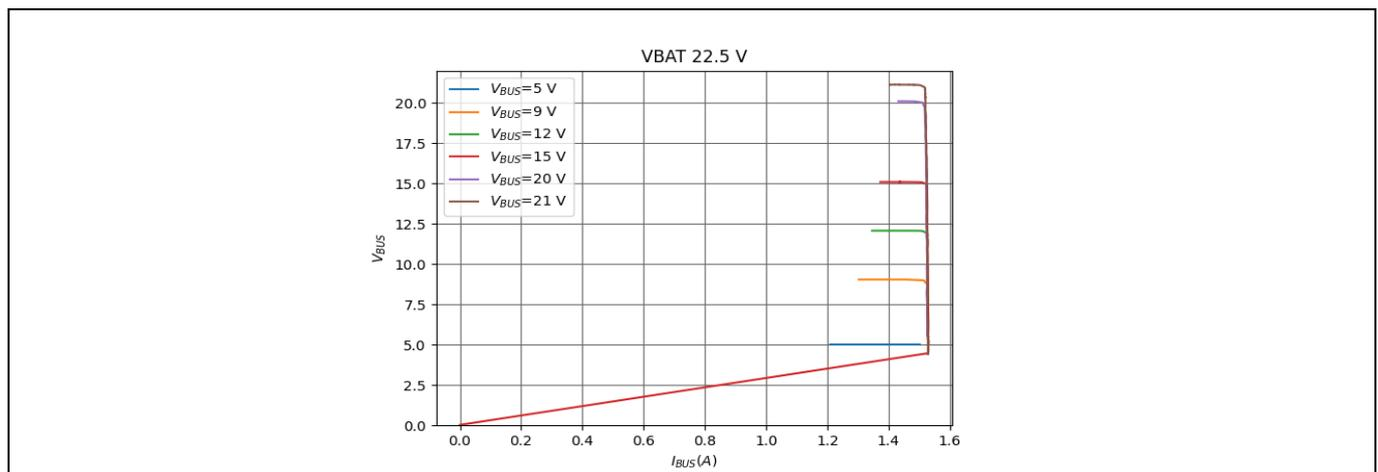

Figure 33 CC regulation curve at 22.5 V_{DC} input and 1.5 A output current
Output constant current (CC) regulation of each port measured at 1.5 A output current is shown in Figure 33.